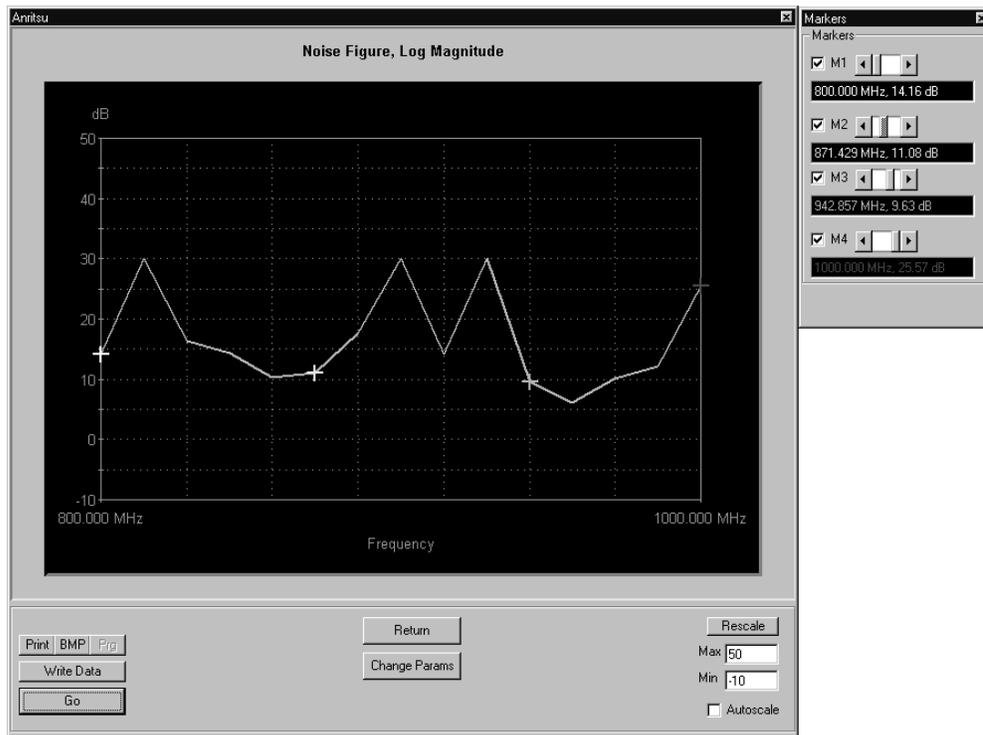

Figure 5-13. Noise Figure Test Screen
- **Select Start Test:** Observe that the test screen (Figure 5-13) appears.